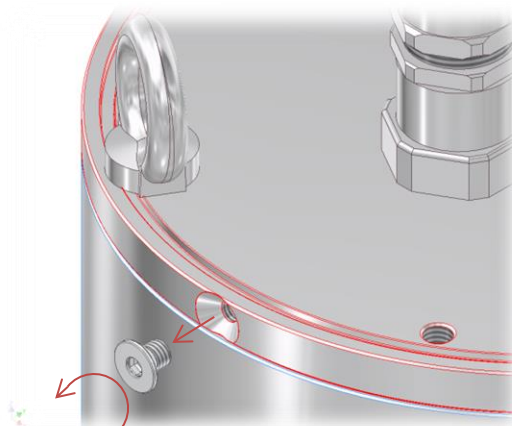

Fig. 6-5: Removing the countersunk screw, type T08-TNXCD
- At first, unscrew the stainless steel countersunk screw with internal hexagon (DIN 7991) on the flange component (see Fig. 6-5)